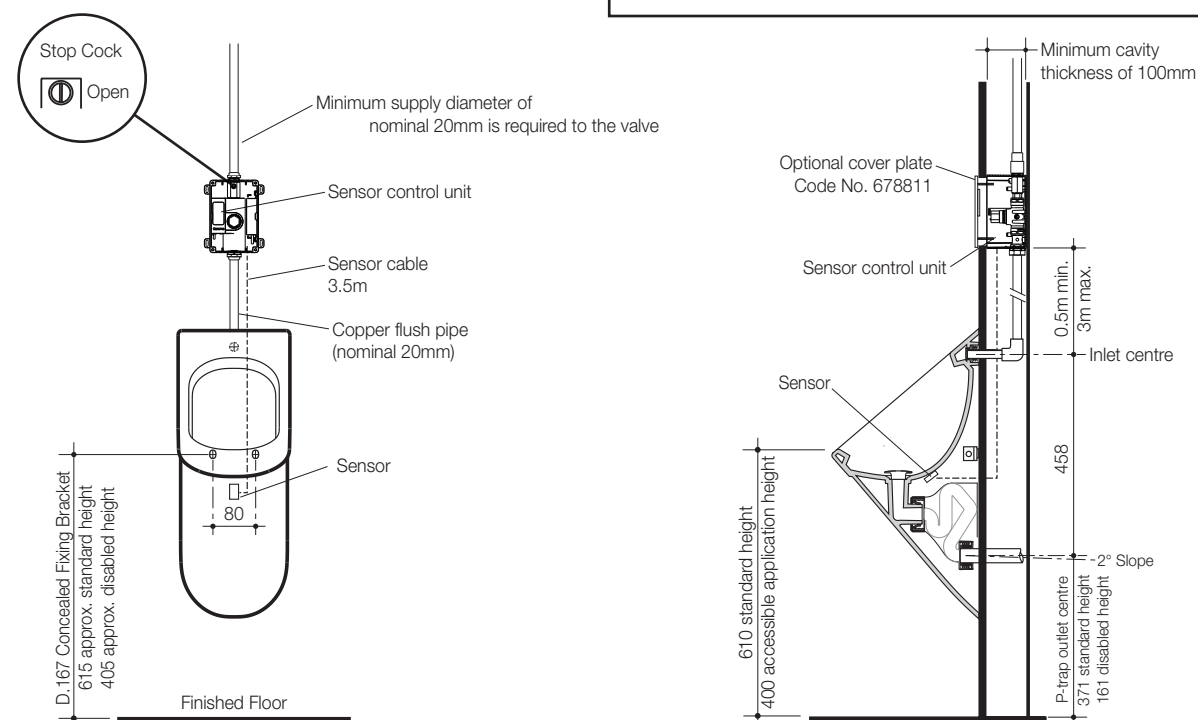
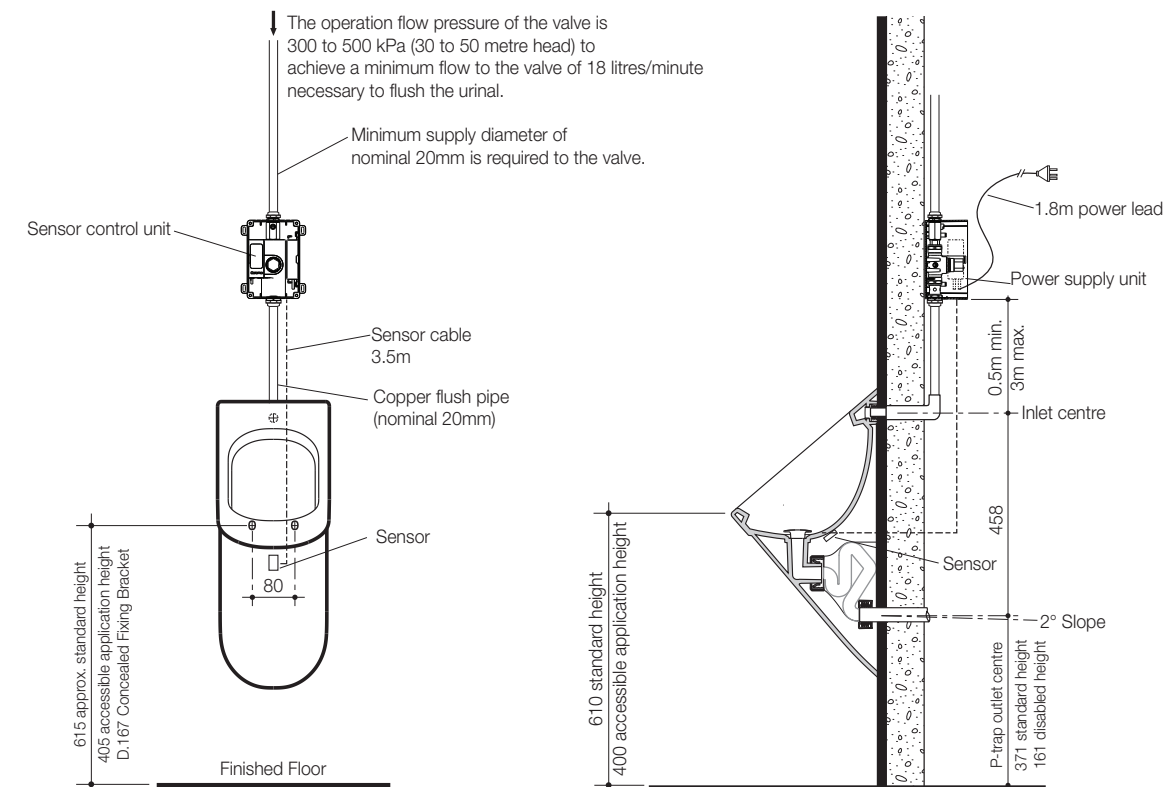
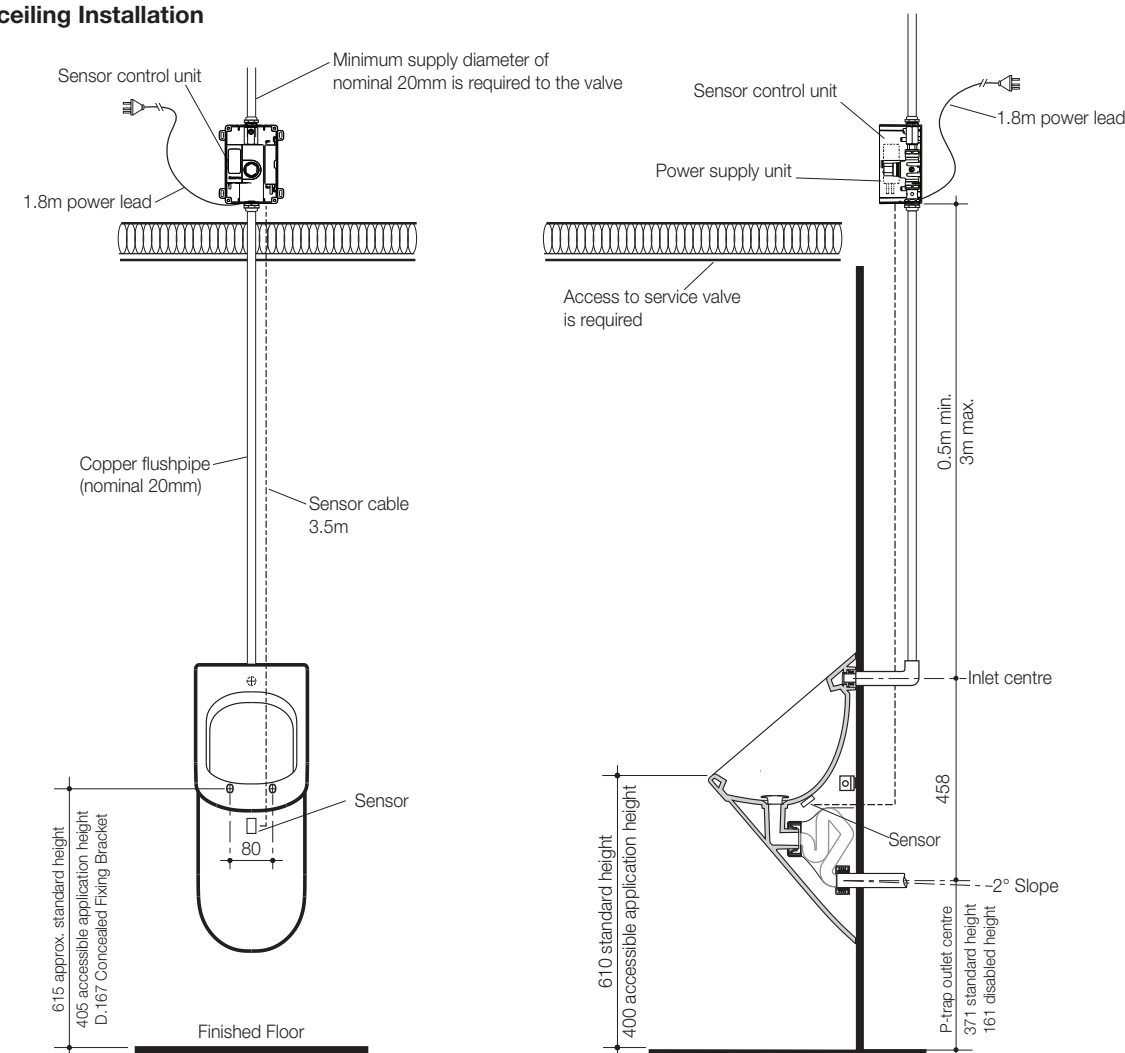

Fig. 1
Fig. 4
Fig. 5
1. Install flush valve as required, inwall (**Fig. 1**), induct (**Fig. 4**) or inceiling (**Fig. 5**).
7. Mount Sensor Control Unit, as detailed in **Fig. 1**.